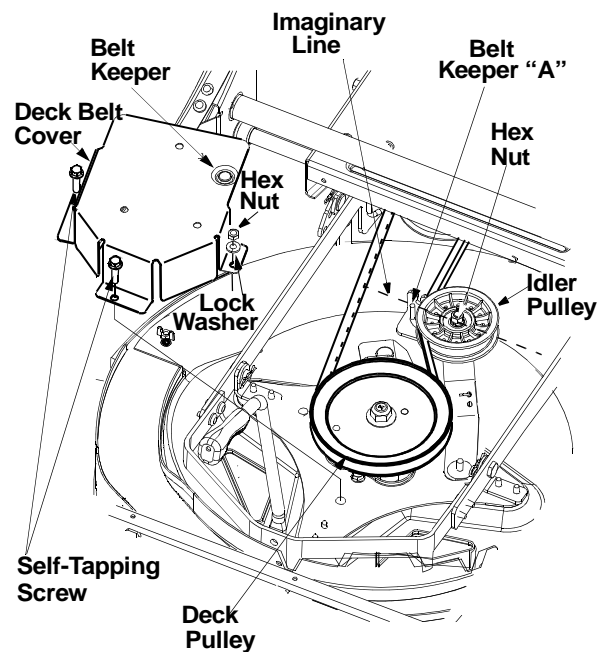

Figure 13
- Using a 1/2" socket wrench, remove two self-tapping screws, lock washer and hex nut that hold the deck belt cover to the deck. See Figure 13. For
- Using a 9/16" wrench, loosen the hex nut on the idler pulley. See Figure 13.
- Place the new belt around the deck pulley and the engine pulley making sure that the belt is routed inside the belt keepers. There are two belt keepers under the grass catcher, one on the idler and the other under the deck belt cover. See Figure 13.
- Make sure to align the belt keeper in line with the frame. See Figure 13.
**NOTE:** An imaginary line between the belt keeper and idler pulley should be parallel to frame. See Figure 13.